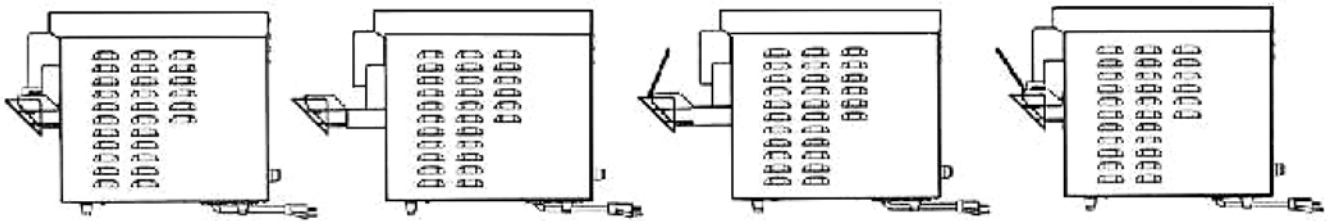

Figure 2
- II. Position Wire Feeder - refer to Figure 2